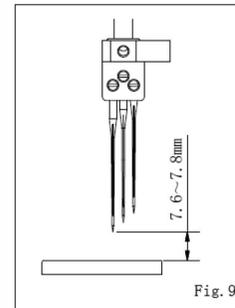

Fig. 9
1. 先将针棒升到最高处, 此时最长针的针尖与针板的距离为7.6~7.8mm。(图9)
1. Please lift the Needle Bar to the highest position. During this time, the standard height between the longest right needle point and Needle Plate are 7.6~7.8 mm. (Fig. 9)